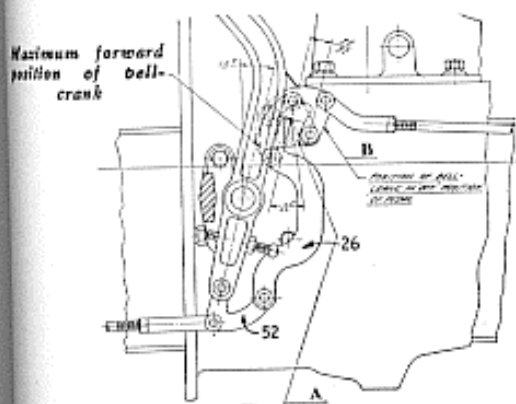

Fig. 4
- 8A. It is important that the slot in pedal, as shown in Fig. 4, be deep enough to permit bell crank (top bell crank) to move to the position indicated by the dotted lines. If movement is not sufficient, file out slot to clear.